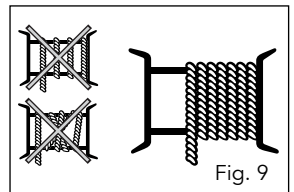

Fig. 9
10. Before you start, ensure that the steel cable (6) is correctly wound around the drum (3) and that the spacing between the windings is smaller than the steel cable (Fig. 9)